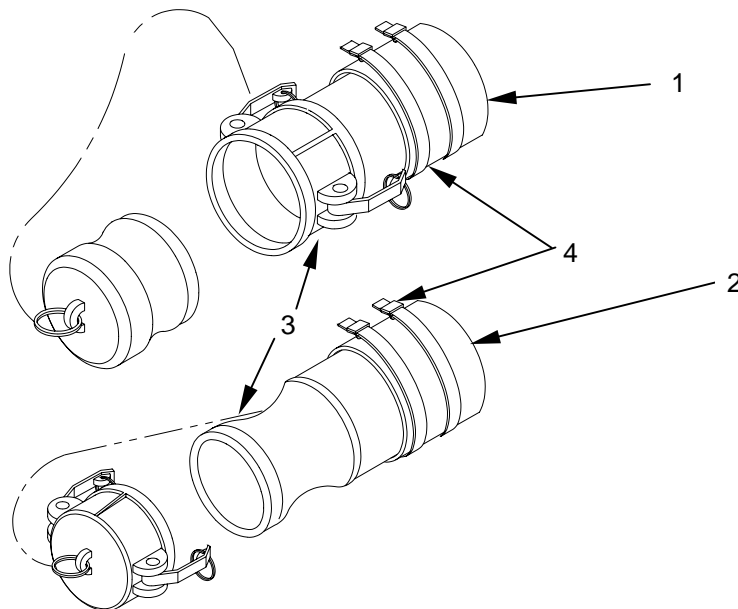

Figure 1. Hoses and Quick Disconnect Couplings
To replace a 2½-inch intake (**figure 1, item 1**), or 4-inch drain hose (**figure 1, item 2**), as well as a QD fitting (**figure 1, item 3**), ensure item has been cleaned, sanitized and proceed as follows:
1. Cut banding (**figure 1, item 4**) from hose.
2. Remove coupling (**figure 1, item 3**) from hose.